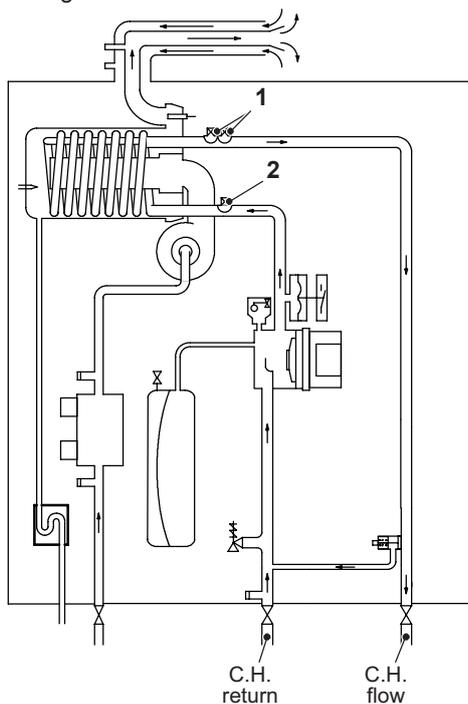
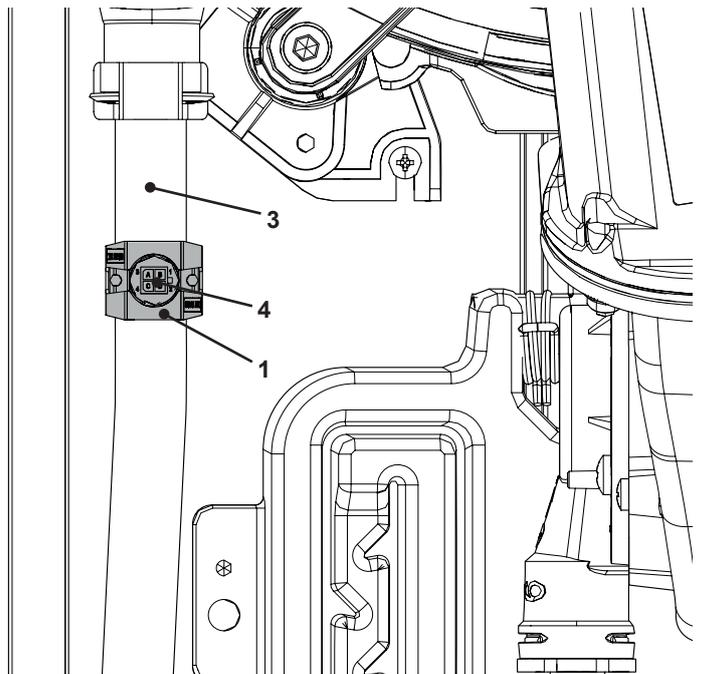
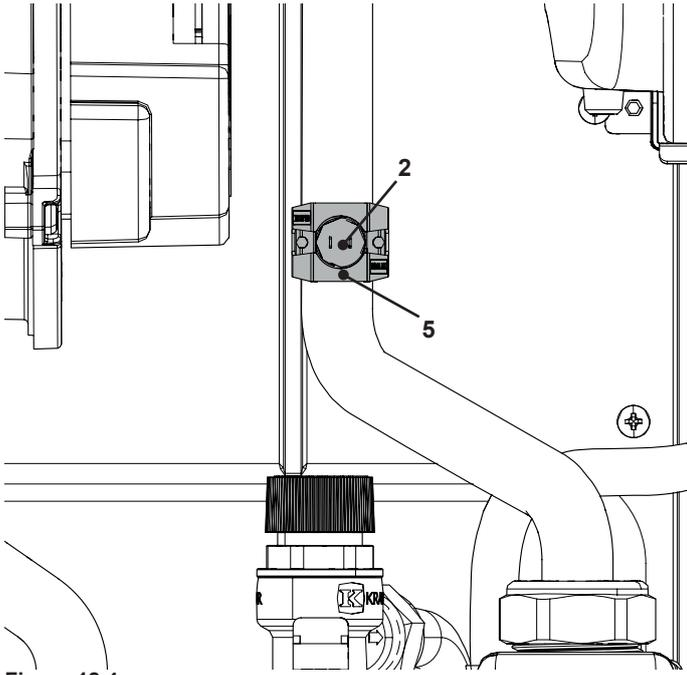

Figure 12.2
Figure 12.3
Figure 12.4
On the boiler there are three temperature probes. One on the output of the primary condensing heat exchanger (NTC heating delivery probe - NTC maximum temperature) "1" in Figure 12.2 and Figure 12.3, one on the return of the primary condensing heat exchanger (C.H. temperature return probe NTC) "2" in Figure 12.2 and Figure 12.4.
- 2 Remove the electric connector "4" and the NTC probe "1" (Figure 12.3).
- 2 Remove the electric connector "2" and the NTC probe "5" (Figure 12.4)